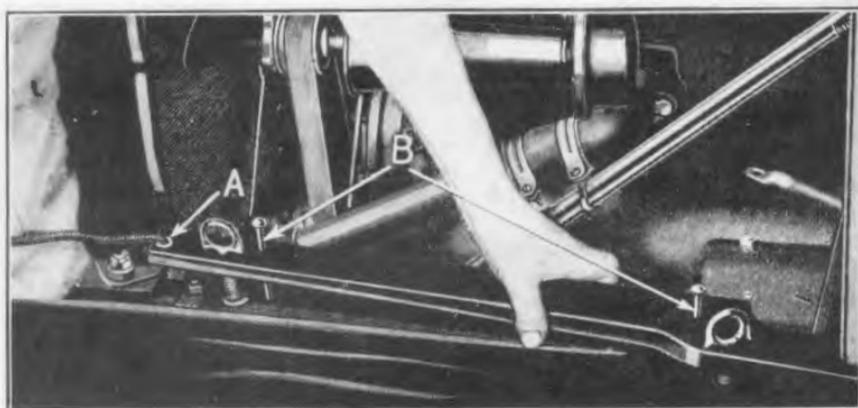

Fig. 112
- (b) Position hood block on frame and insert headlamp wire through headlamp wire hole in hood blocks. Place headlamp wire bushing into hole in hood block (See "A" Fig. 112). This prevents headlamp wires from becoming chafed.